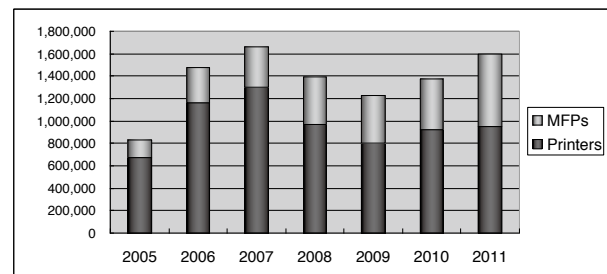

Figure 1. Worldwide Shipments for A4 Color DT/SWG Segments¹⁾
(1) Target Market Trends
In general, group with fewer than 20 users sharing a printer is referred to as the Desk Top (DT) segment and group of 20 to 50 users the Small Work Group (SWG) segment. The shipment trend since 2005 of the two segments, which is OKI's target market, is shown **Figure 1**.